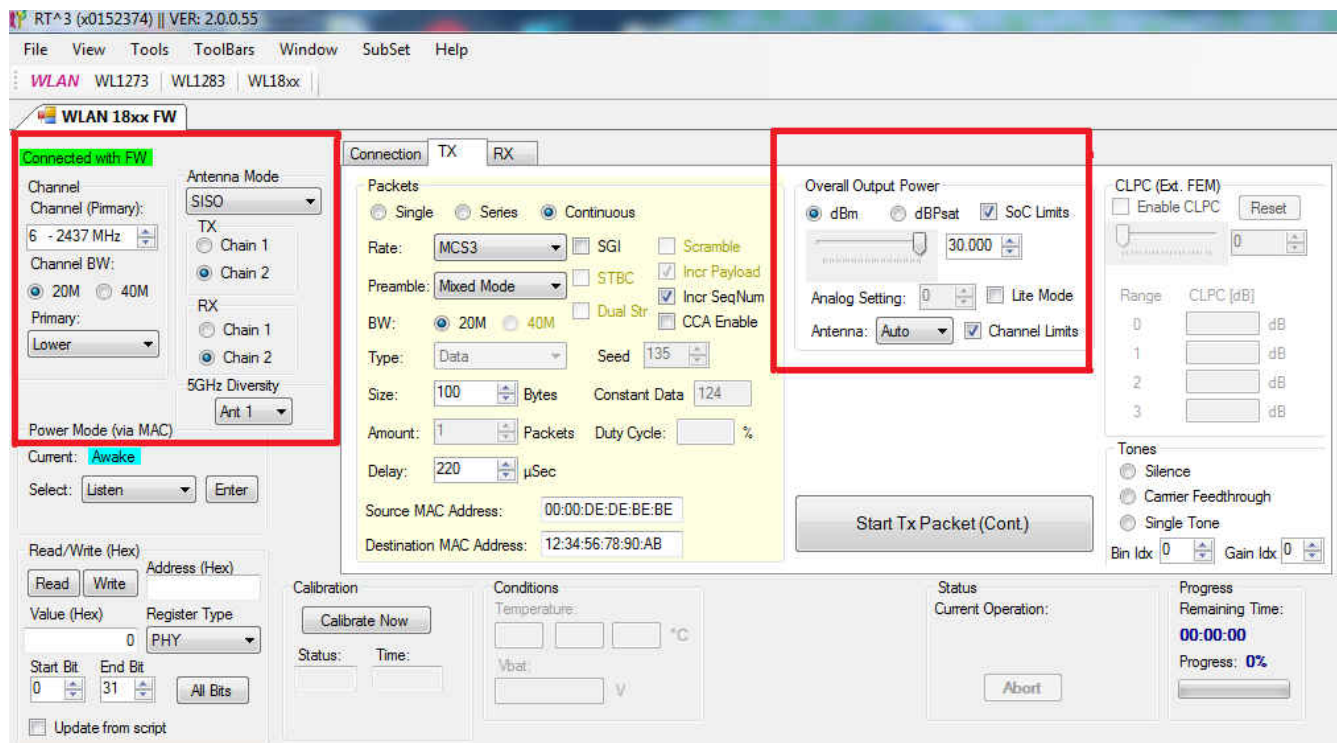

Figure 6-5. WLAN 18xx FW Tab
To test the output power on the WiLink 8 device, perform the following steps (see Figure 6-5):
3. Using the slider, select a power setting of 30 dBm (see Figure 6-5).